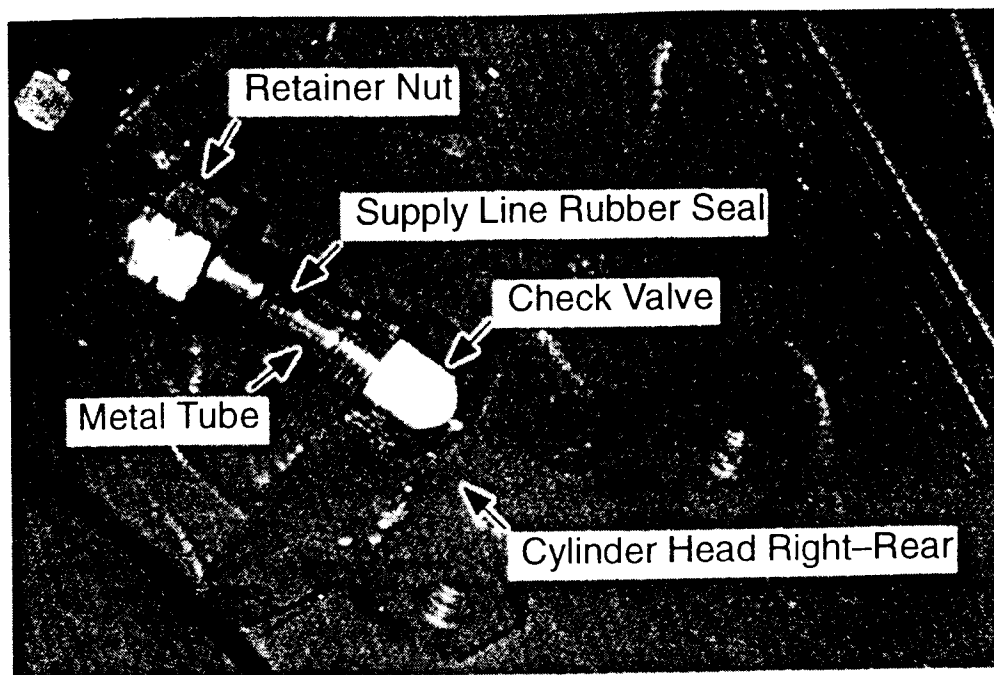

Figure 2. – Fuel Supply Fitting (Check Valve) At Cylinder Head
**A loss of power** sometimes accompanied by a knocking sound can be caused by fuel restriction to the cylinder head on subject engines. The fuel supply fitting in the cylinder heads (right rear and left front) has an orifice that can become restricted, usually debris from the supply line rubber seal (**See Figure 2**). Diagnosing the engine for this condition may generate multiple cylinder contribution codes on one bank.